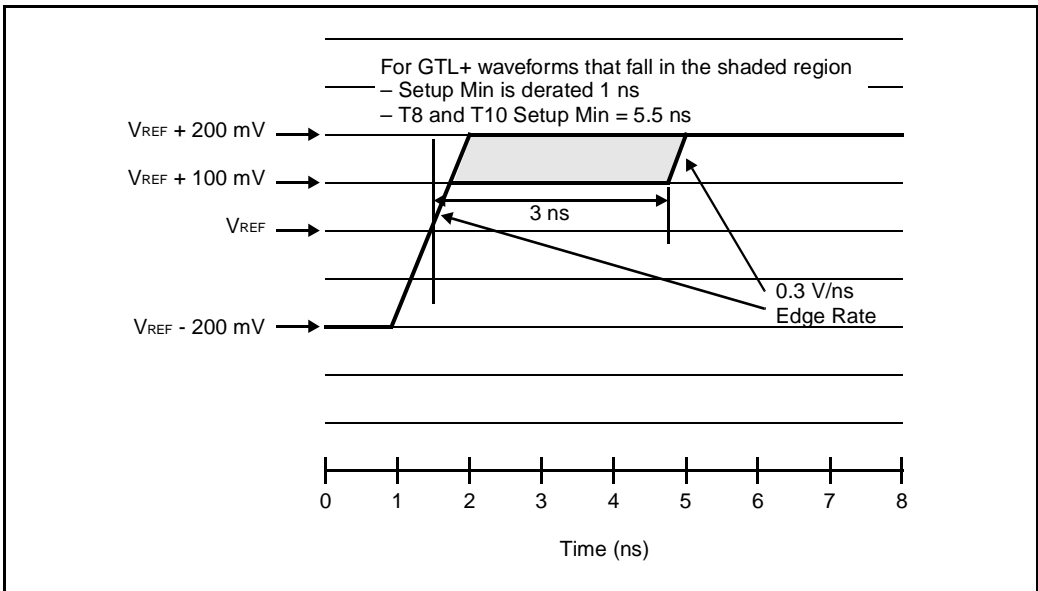
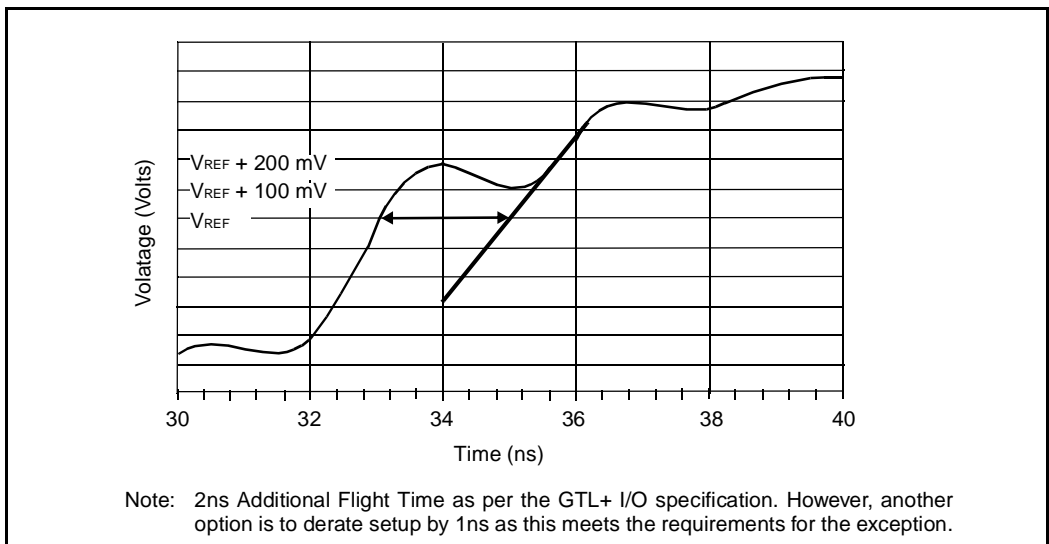

Figure 5. Exception to GTL+ Minimal Input Waveform With Setup Impact
Figure 6. Example of 450KX/GX Receiver Waveform that Benefits from T_{SU} Derating
1. Values correspond to input waveforms as specified in the GTL+ Interface Specification in *Pentium Pro Processor Developer's Manual: Specifications*. A waveform with less than 200mV of overdrive is acceptable if it meets the criteria in Figure 5. However, in this case, the minimum setup specification will be impacted by 1ns, making Setup Min 5.5ns. An example of a signal that would benefit from this derating is shown in Figure 6.